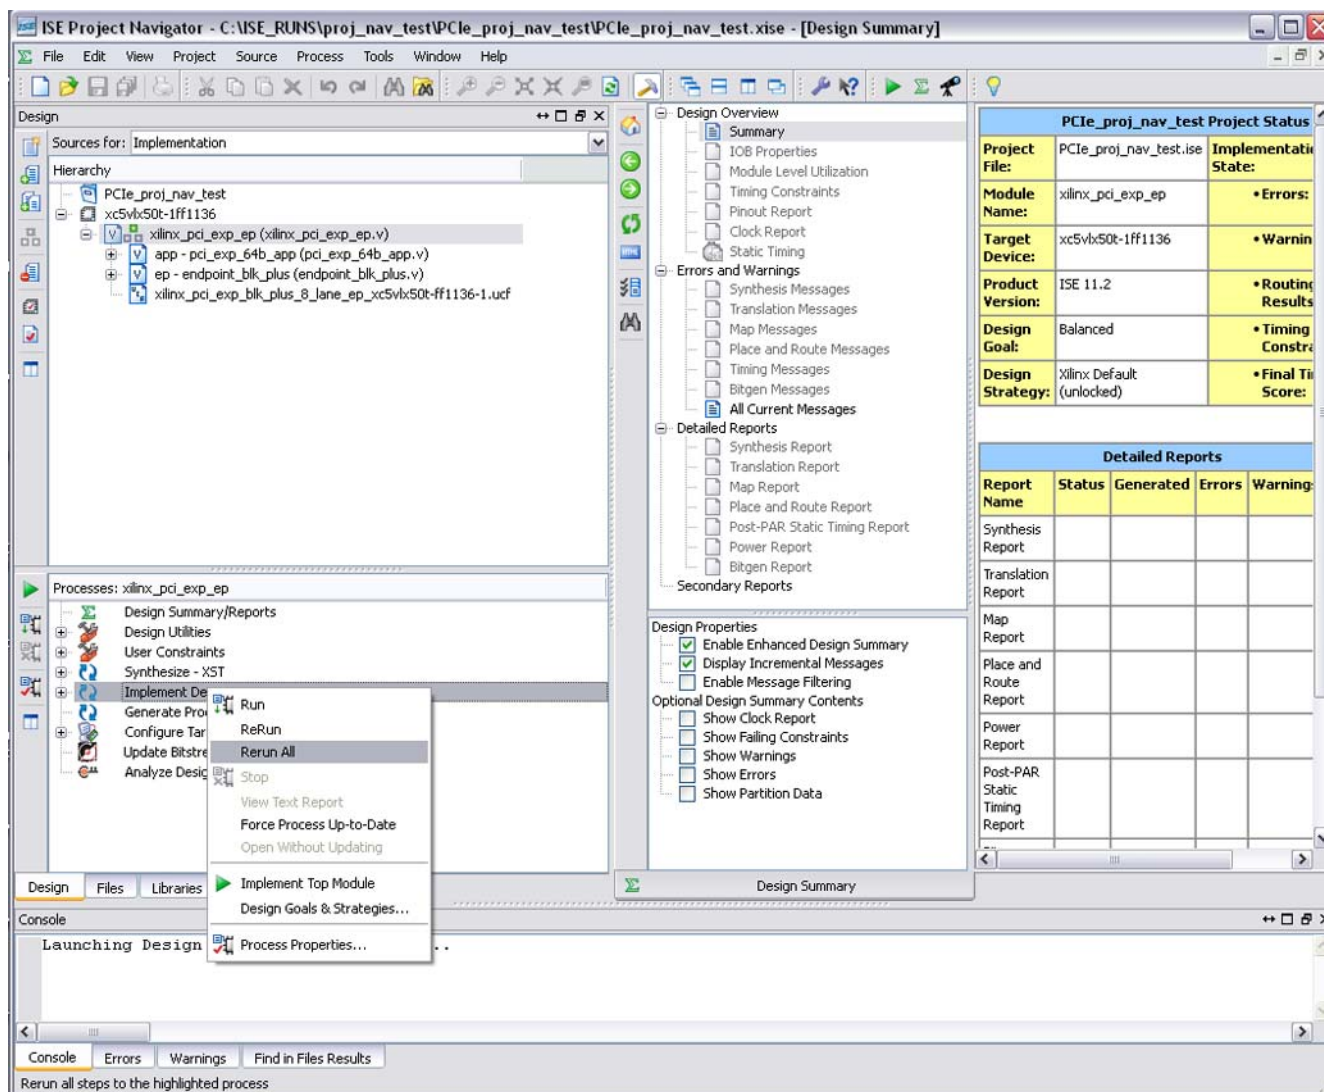

Figure 3-14: Implementation Timing Results
14. From the Processes window, right-click Implement Design and select Rerun All to start the implementation, as displayed in Figure 3-14.